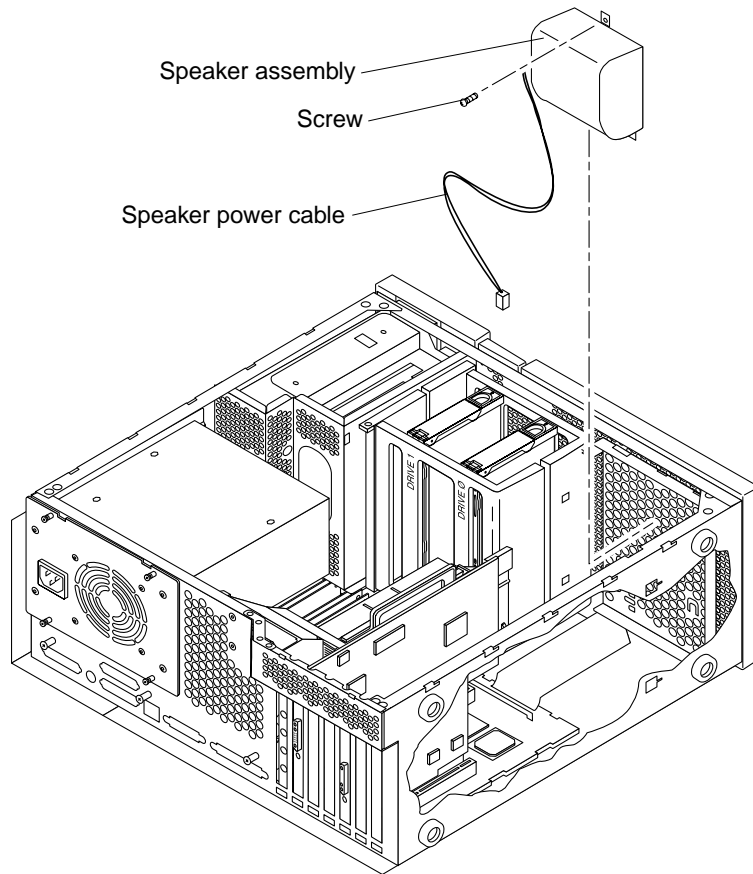

FIGURE 8-9 Removing and Replacing the Speaker Assembly
5. Disconnect the speaker power cable from the motherboard (FIGURE 8-9).
1. Position the speaker assembly in the chassis (FIGURE 8-9).